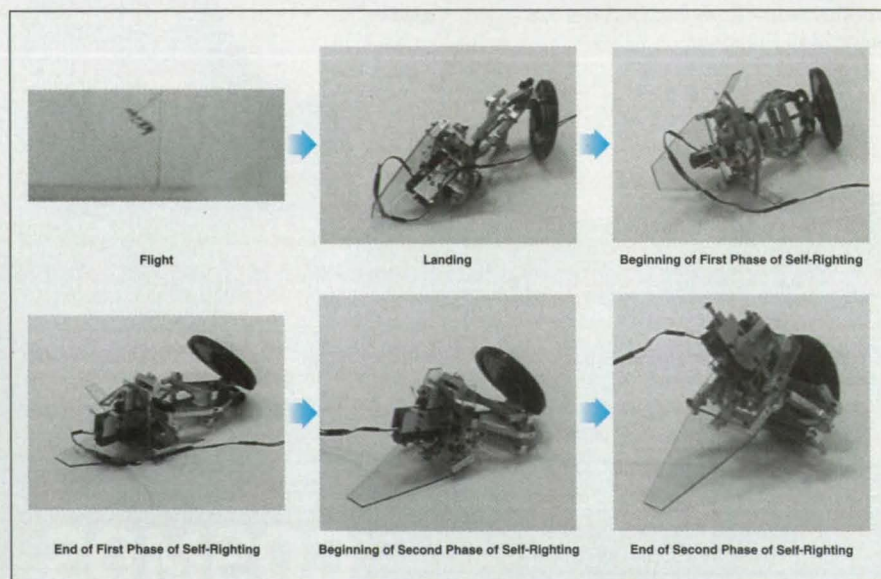

Figure 2. The Robot Rights Itself after hopping and landing toppled over.
2. During the second phase of the self-righting operation, the spring is compressed and the leg retracted in preparation for the next hop. Because retraction of the leg restores the bottom-heavy configuration, it aids self-righting. Figure 2 depicts a sequence of events from flight through landing and self-righting.